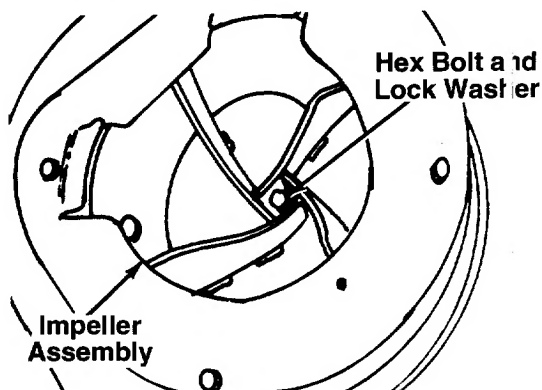

FIGURE 18.
2. Remove hex bolt and lock washer from center of impeller. See figure 18. A 9/16" socket wrench with extension is needed.